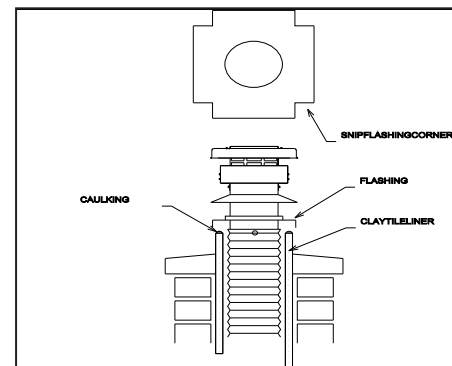

Figure 5
4.2 If chimney has clay tile liner extending above the crown, notch corners of the FLASHING & bend down all 4 sides. Lay a bead of silicone caulking around top edge of cleaned tile liner and sit the FLASHING into the caulking. See Figure 5.